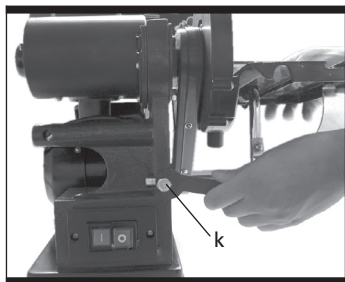

Fig 7
3) Tighten the hex set screw (k) with the spanner (g-2) provided. (Fig 7)